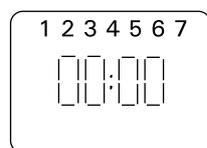

Figure 4.
- This will remove any erroneous data contained within the clock. After resetting, the screen will remain according to the diagram 3 for a while, but then the numbers 1–7 representing the days of the week will start to flash in the upper part of the screen. (Fig. 4)